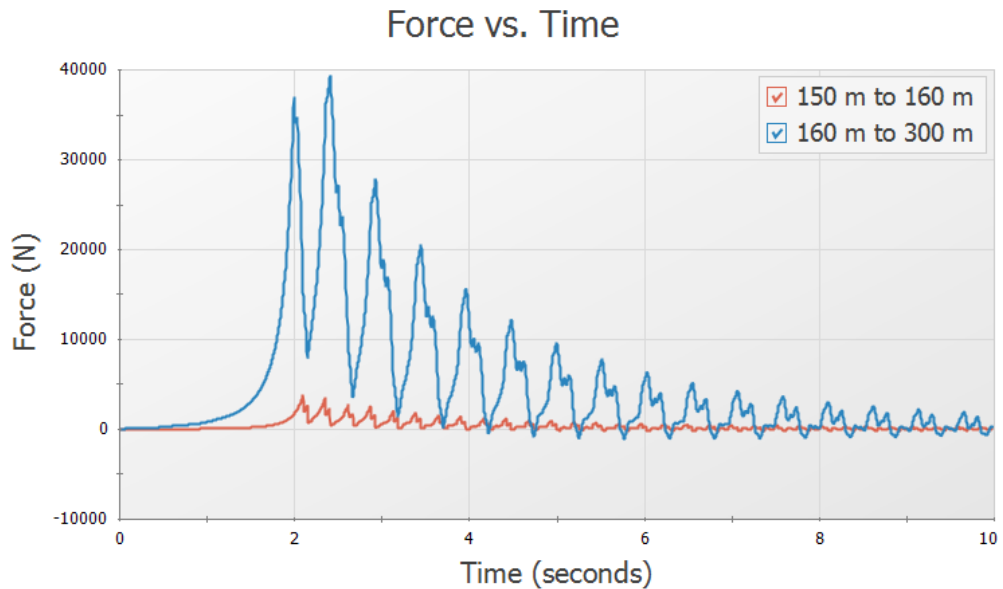

Figure 5.4 Force vs. Time for both force sets
- **Click Generate**, and the following force vs time graph is displayed (Figure 5.4).
Some traditional methods of analyzing force sets will not have this same result, since they do not include the effects of friction or momentum in their force balances. If the graph from Figure 5.4 was created with friction and momentum ignored, then the steady-state values would be calculated as approximately -5,100 N and -11,940 N. Due to this effect, AFT Impulse will always include both friction and momentum when graphing force sets.